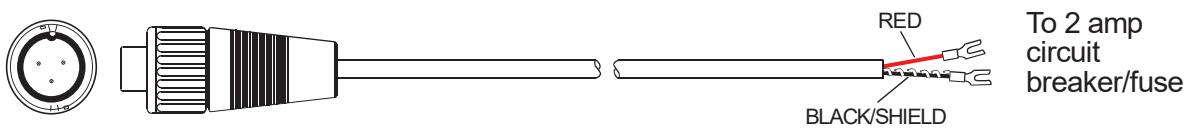

Figure 2: C98-20PW Power Cable
- ❑ Using the wire cutters and wire strippers, prepare the end of the cable as necessary for your installation (**Figure 2**).